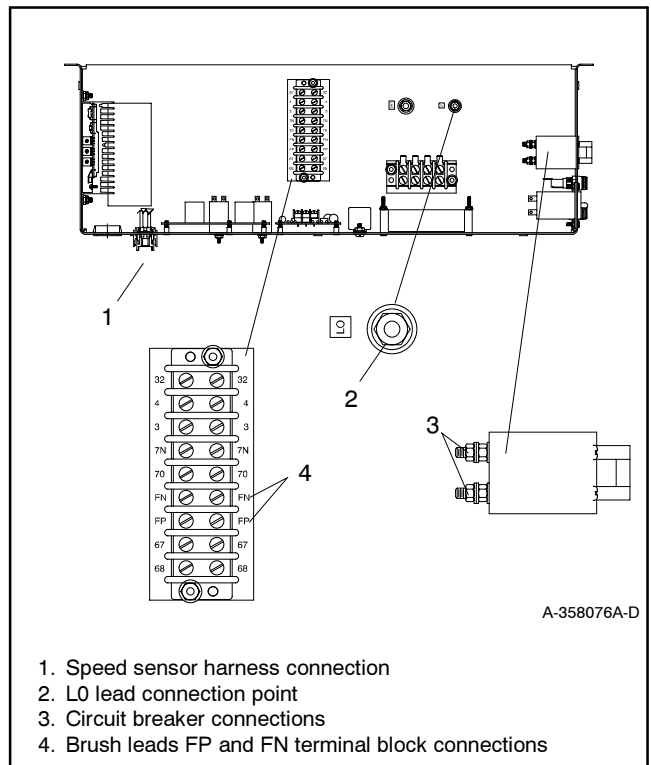

Figure 8-16 Controller Top View, Typical
- b. Connect the speed sensor harness to the controller. See Figure 8-16 for the plug location.
- c. Route brush leads FP and FN into the controller and connect them to the controller terminal strip. See Figure 8-16.